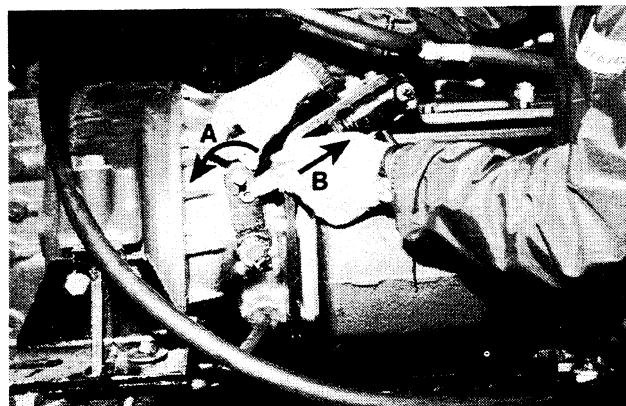

Figure 15:
4. Rotate the clutch cross shaft "counter-clockwise" until a slight resistance is felt. At the same time, push in on the slave cylinder actuator rod to "bottom" the slave cylinder piston. (Open the bleeder valve momentarily, if necessary. The slave cylinder piston must be fully retracted) (see Fig. 15).